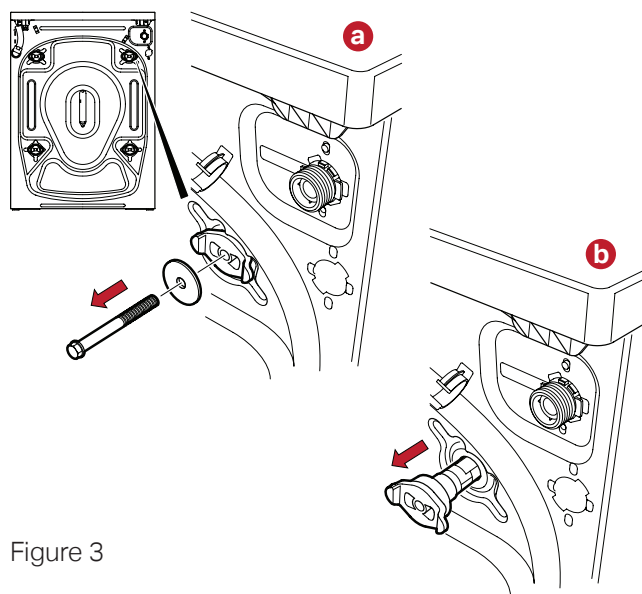

Figure 3
There are four transportation safety screws located on the rear of your Washer Dryer (as shown in Figure 3). They are used to protect your Washer Dryer from damage during transportation and must be removed before first use. Please keep them in a safe place and re-fit them if transporting your Washer Dryer in the future.
- 1 Using a suitable spanner, rotate each safety screw anti-clockwise until loose, and remove (see Figure 3(a)).
- 2 Pull out the remaining plastic sections of each screw by hand (see Figure 3(b)).